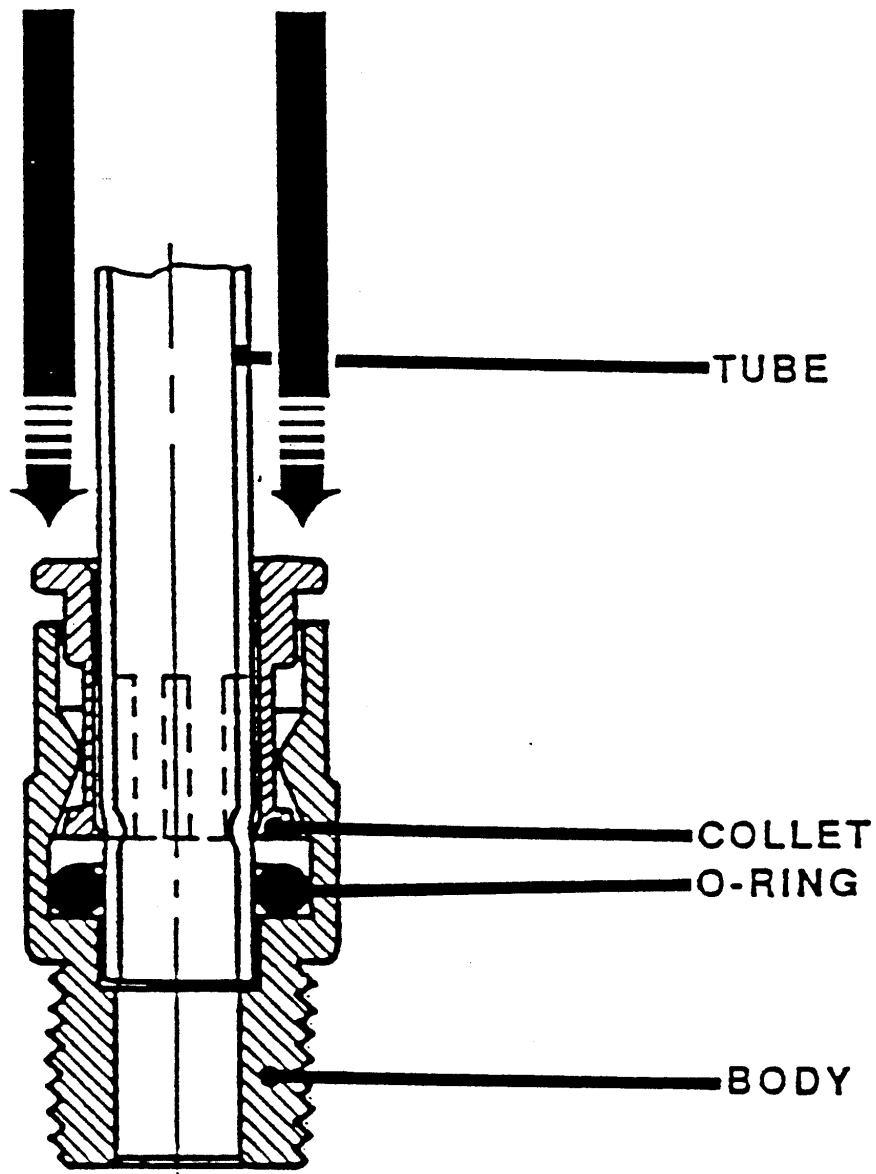

Figure 4: Typical Air Line Fitting Actuation.
- 10.1 Remove cover plate and roller tray assembly as described in paragraph 8.1. Disconnect the airline from the airbag fitting by pushing out on the locking collar of the fitting, as shown in Figure 4. Lift the bag out of the main channel. If the bag is suspected of excessive air leakage, proceed with "Leakdown Test" as outlined in Section 11.0